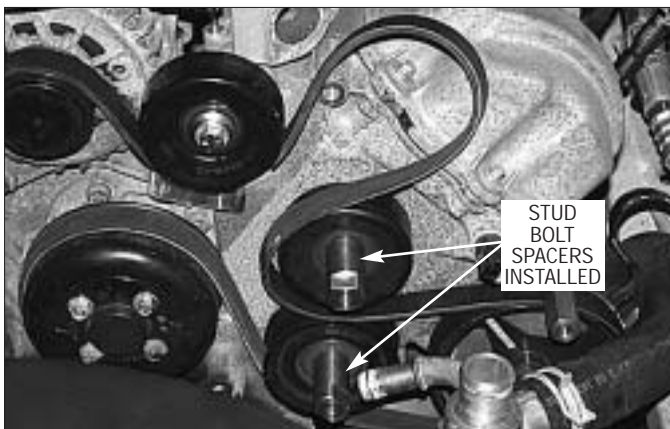

Fig. 7-b
- C. It is necessary to install the supercharger accessory drive belt and loosely route it following Fig. 7-e, as not all pulleys are currently in place.